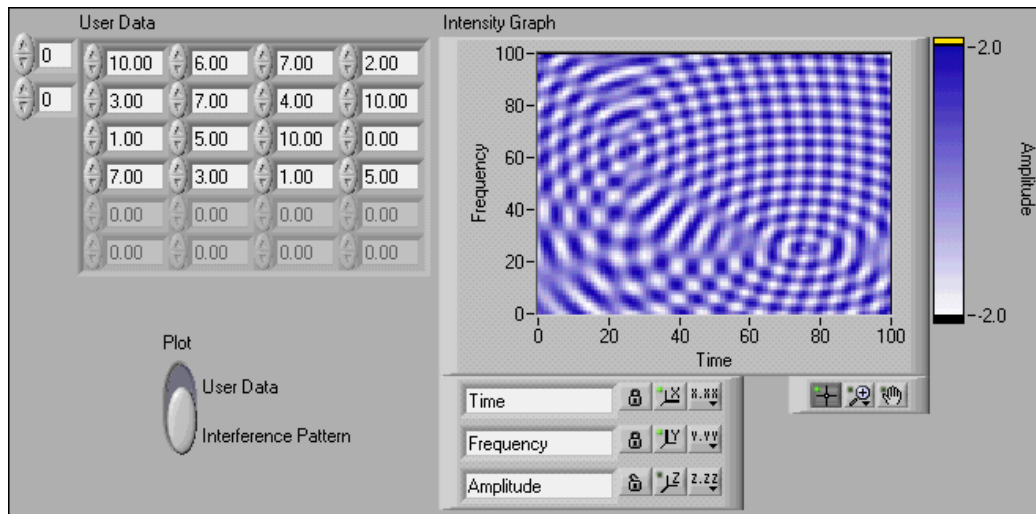

Figure 7.29
1. Open and run the Intensity Graph Example (Figure 7.29) VI located in the C:\Exercises\LabVIEW Basics I directory. By default, the VI plots an interference waveform. A Property Node on the block diagram defines the color range used in the intensity graph. You can change the color range by opening the block diagram and modifying the Color Array constant.